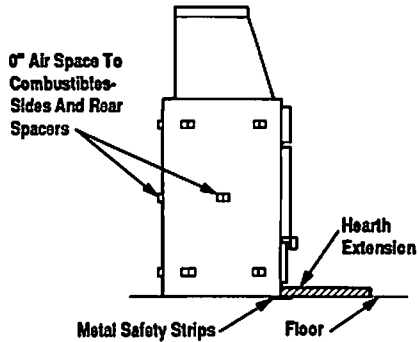

Figure 4
Step 2. Insert the metal safety strips, packaged with the fireplace, beneath the fireplace as illustrated (Figures 4 and 5). Safety strips should be tacked down to prevent possible shifting and should overlap for continual coverage of the floor.